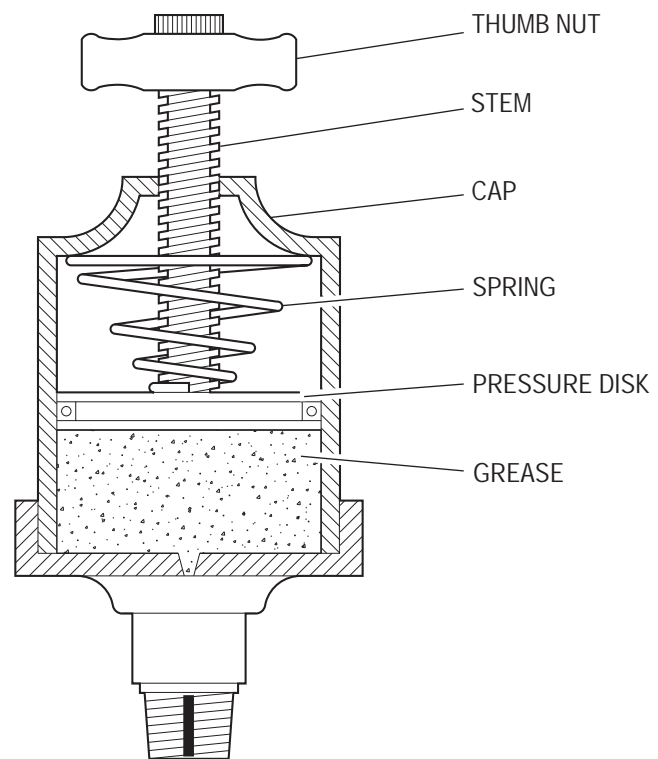

Figure 1 – Automatic Pressure Lubricator Components
- B. Check automatic pressure lubricator at the slurry pump. If the stem is fully extended, with thumb nut all the way up, the automatic pressure lubricator contains lubricant. If not, lubricant must be replaced by the following procedure (See Figure 1):